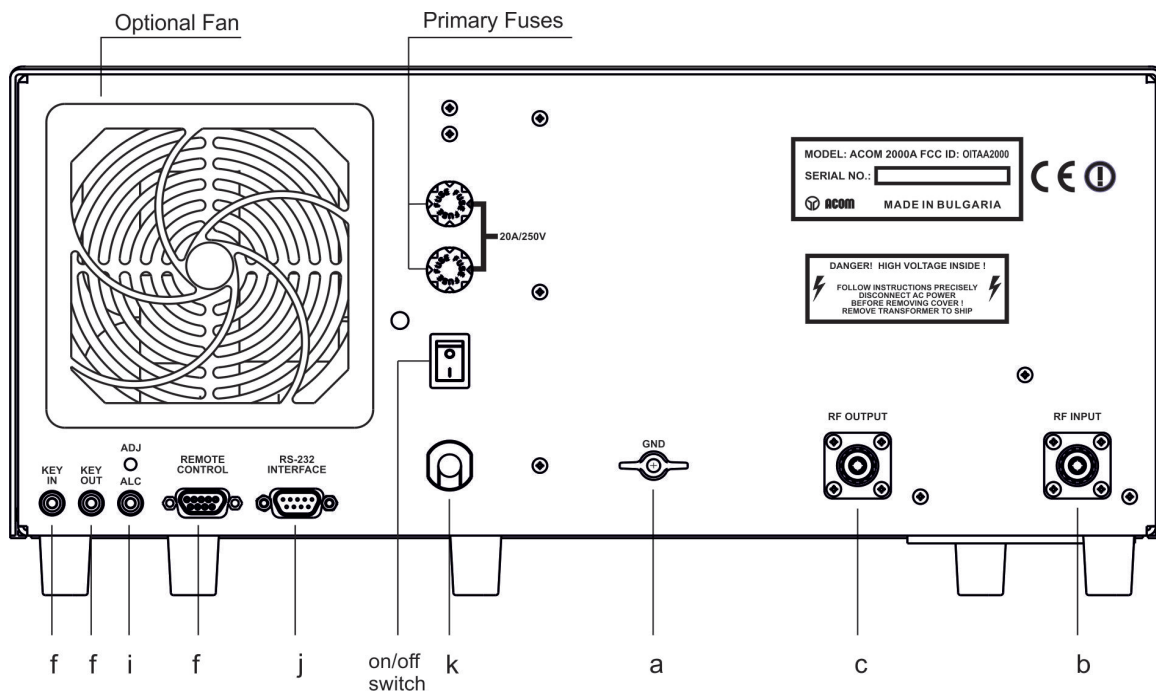
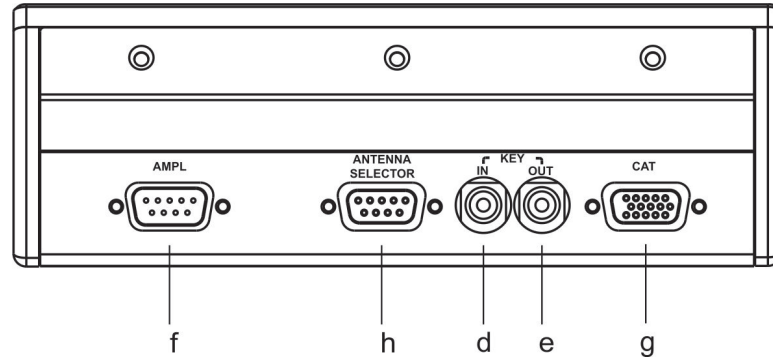
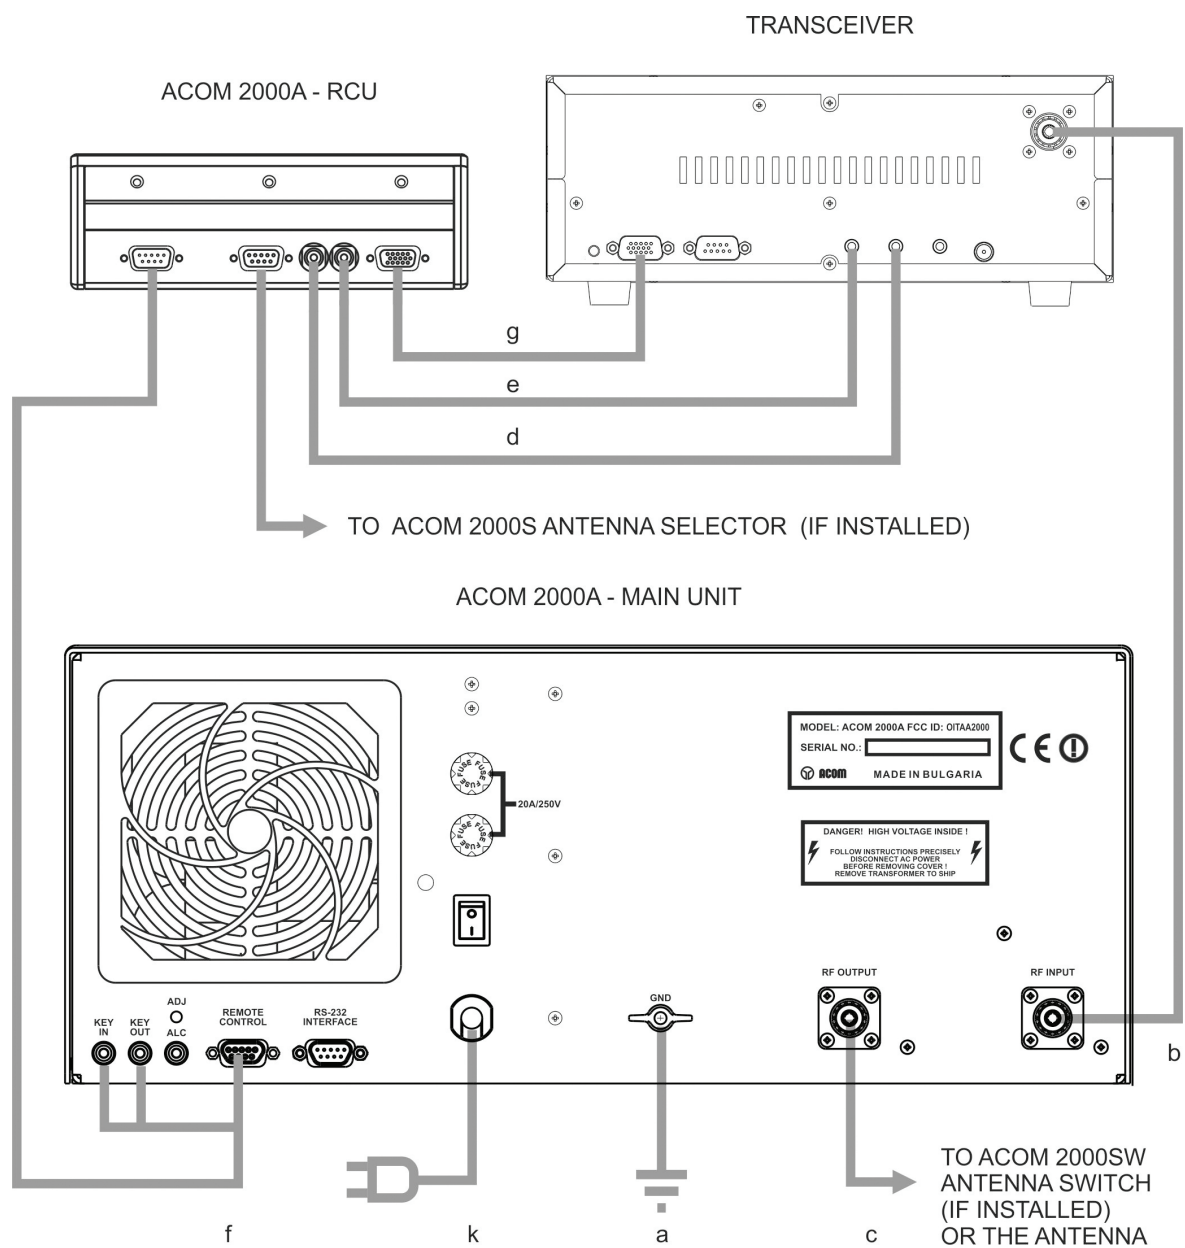

Fig. 2-2 Amplifier Main Unit Connections
Fig.2-3 Amplifier Remote Control Unit Connections
Fig.2-4 Main Unit, RCU, Antenna Selector, and Transceiver connections
- a) Connect the ground stud of the amplifier Main Unit (on the rear panel, marked GND) to the station's grounding system (Fig.2-2, Fig.2-3 & Fig 2-4).
This fan is not necessary in SSB and CW modes, nor in continuous carrier modes (RTTY, SSTV etc.) with carrier down times of maximum 15 minutes and a subsequent pause of 3 minutes. For higher duties the fan is recommended. The auxiliary fan (119x119mm) is supplied as an option with a set of 8 screws, nuts and washers. It may be mounted by the manufacturer or dealer on request (Fig. 2-2). Contact your dealer or see the TECHNICAL SUPPLEMENT for details.
After following all instructions in S.2, you can turn ON the Main power switch on the rear panel (Fig. 2-2). The front-panel red indicator must light and a picture will appear on the RCU (Fig.3-1):
In order to turn on the amplifier, while the rear panel Switch (Fig. 2-2) is on, press the red button on the RCU and hold it on for about one second and you will hear "TEST" being sent in CW.